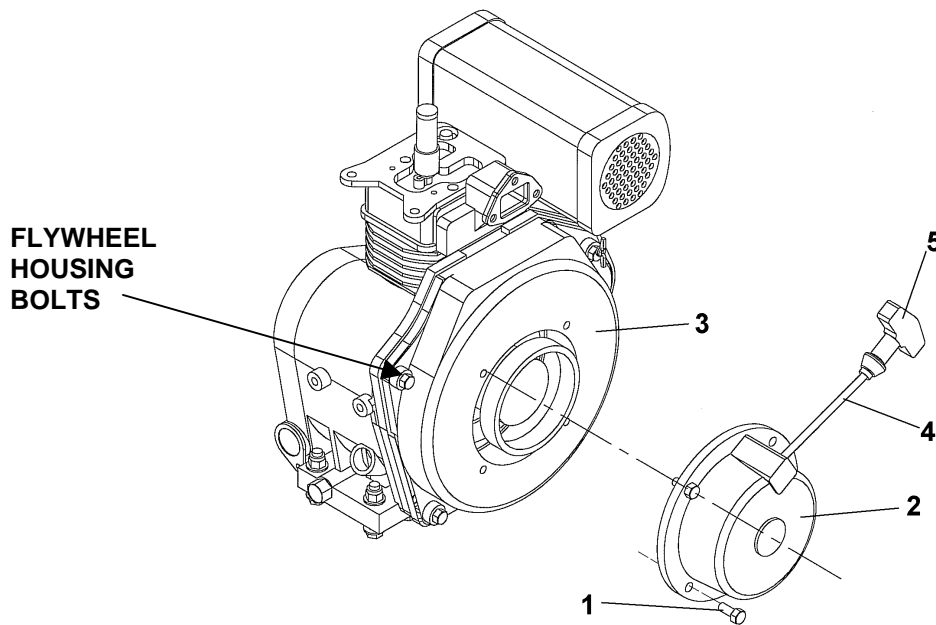

Figure 1. Recoil Starter Removal.
1. Remove bolts (1), and remove the recoil starter assembly (2) from flywheel housing (3). See Figure 1.
Remove flywheel housing (3) by removing bolts. See Figure 1.